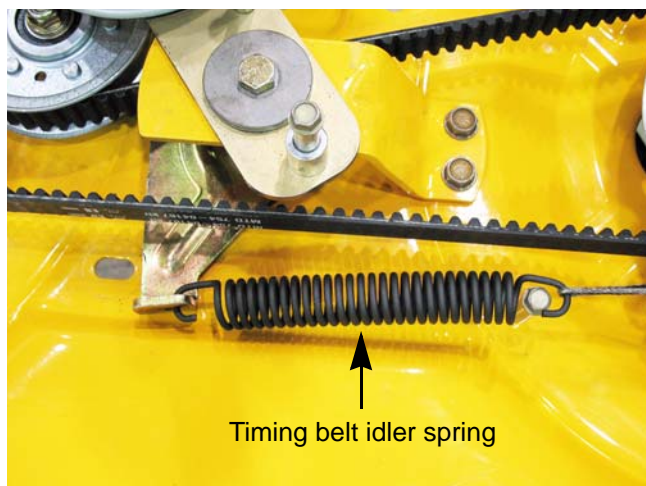

Figure 8.19
5. Remove the timing belt idler spring. See Figure 8.19.